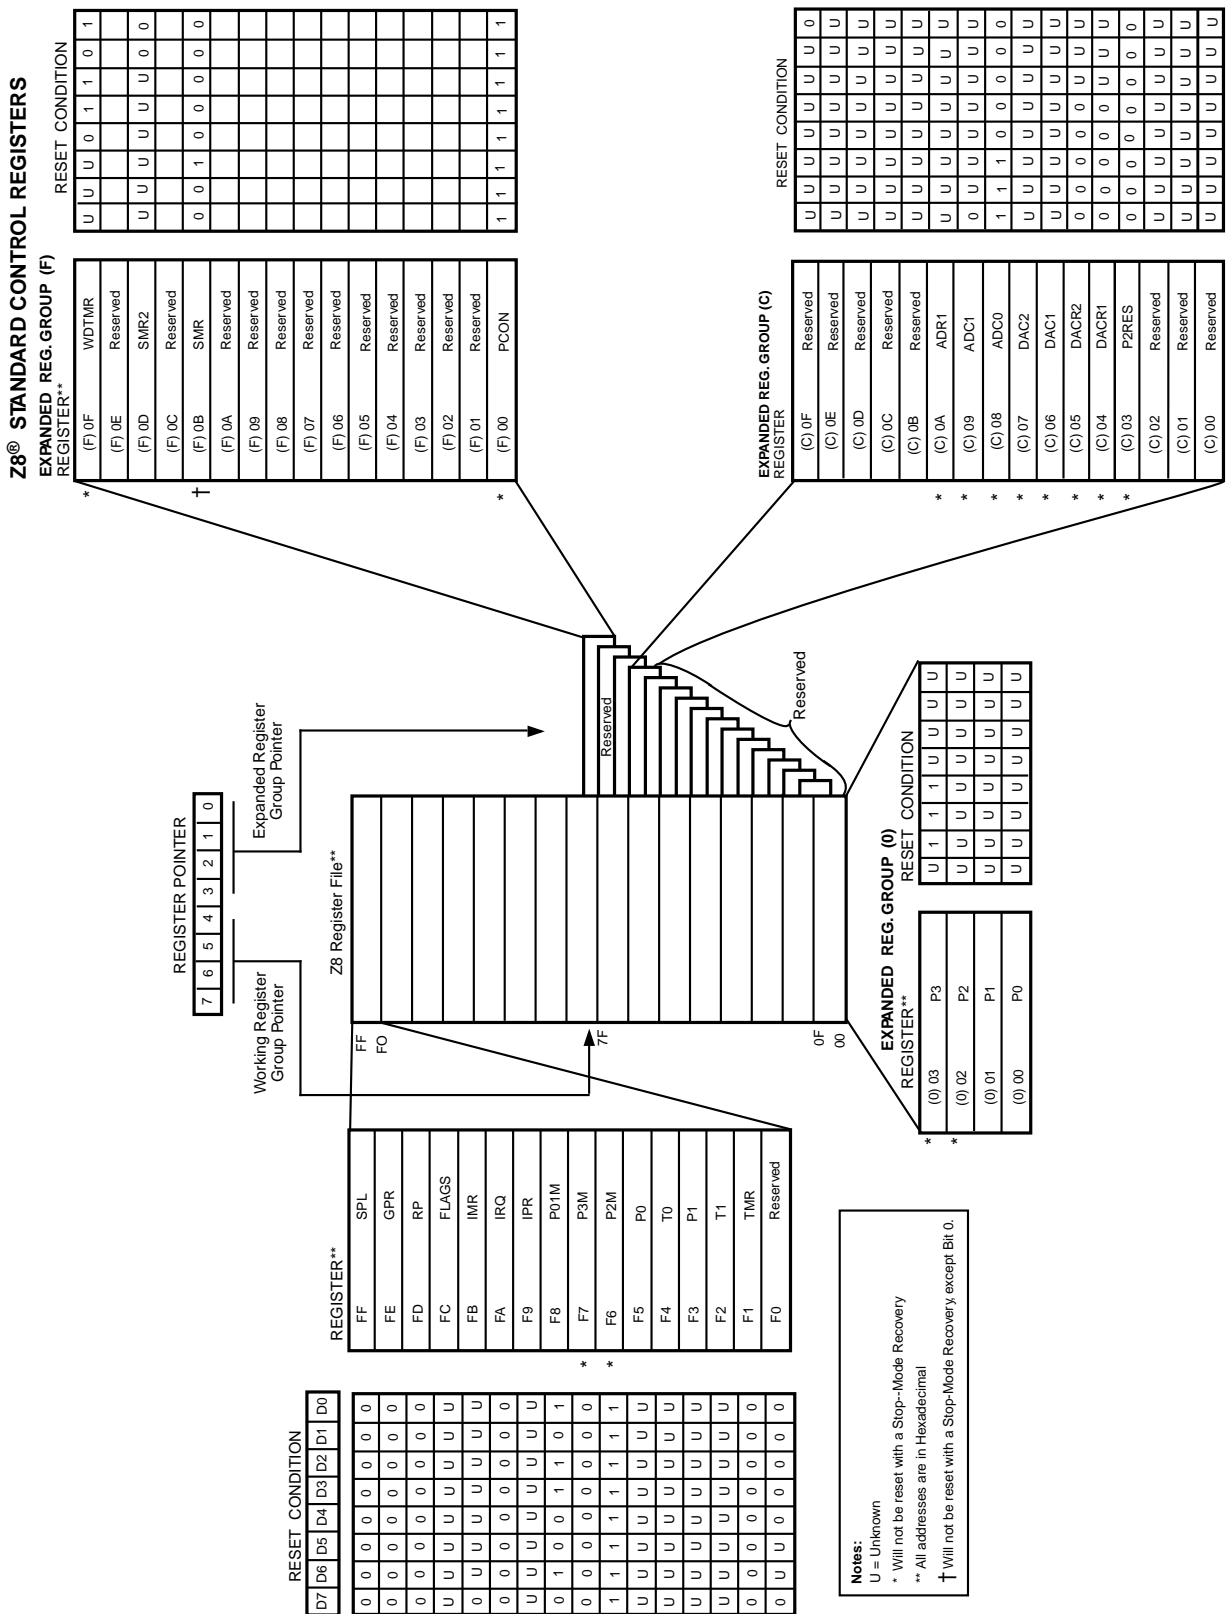
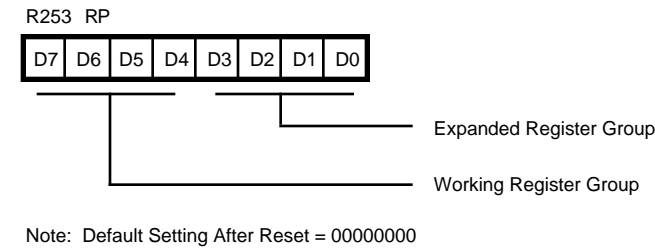
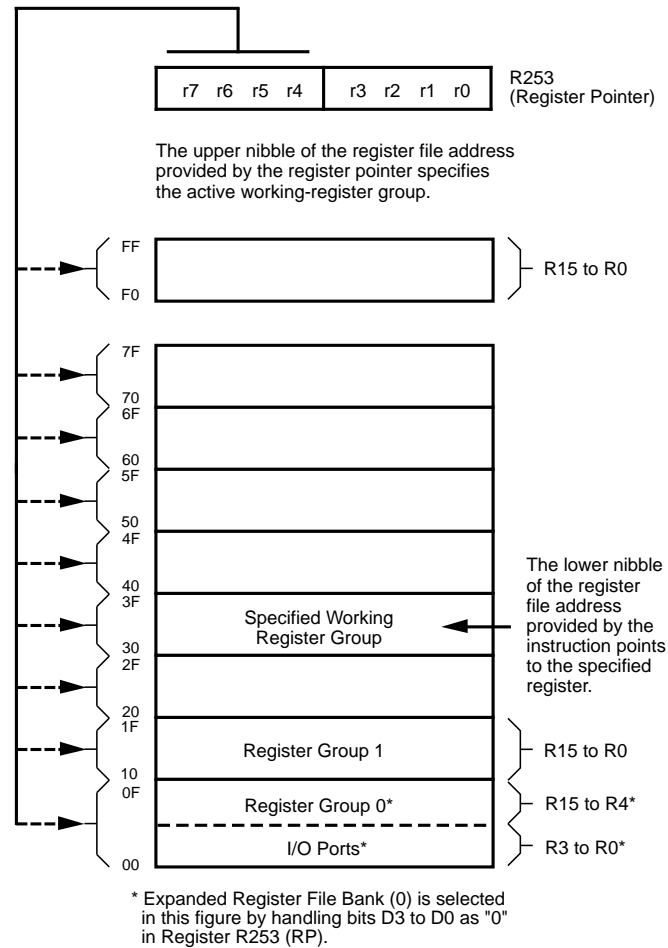

Figure 16. Expanded Register File Architecture
Figure 17. Register Pointer Register
Figure 18. Register Pointer
**Expanded Register File.** The register file has been expanded to allow for additional system control registers and for mapping of additional peripheral devices and input/output ports into the register address area. The Z8 register address space R0 through R15 is implemented as 16 groups of 16 registers per group (Figure 16). These register banks are known as the Expanded Register File (ERF). Bits 3-0 of the Register Pointer (RP) select the active ERF bank. Bits 7-4 of register RP select the working register group (Figure 17). Four system configuration registers reside in the ERF address space in Bank F and eight registers reside in Bank C. The rest of the ERF addressing space is not physically implemented, and is open for future expansion.
**Register File.** The Register File consists of three I/O port registers, 237 general-purpose registers, 15 control and status registers, and four system configuration registers in the Expanded Register Group (Figure 16). The instructions can access registers directly or indirectly through an 8-bit address field. This allows a short 4-bit register address using the Register Pointer (Figure 18). In the 4-bit mode, the Register File is divided into 16 working register groups, each occupying 16 continuous locations. The Register Pointer addresses the starting location of the active working-register group.